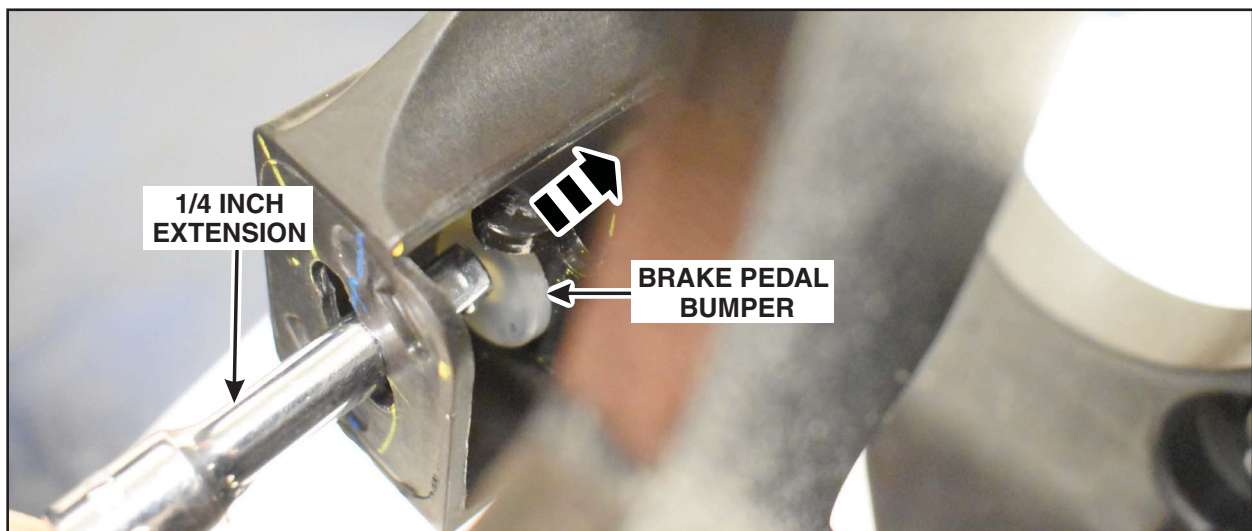

FIGURE 7
6. Insert a 1/4 in. extension through the stoplamp switch opening and push on the **new** brake pedal bumper ensuring that it is fully seated into place. See Figure 7.